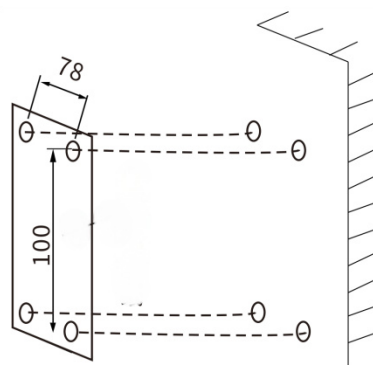

Figure 1-3-1 It can be made by the user according to the bracket
(1) Accessories: Dome machine wall-mounted bracket (load-bearing 10 kg).
(2) Drill holes in the wall.
a. As shown in Figure 1-3-1, use the bracket mounting holes and cable outlet holes as templates to draw and drill holes on the wall. Pass the power cord, network cable and other signal cables that need to be connected to the dome camera through the wall hole to be connected.